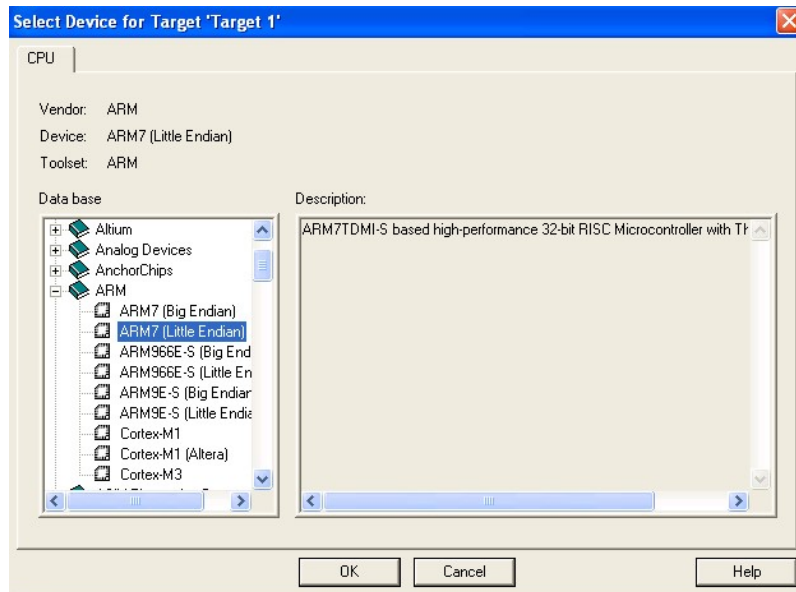

Fig 1.4
Step 3 :At this point the tools will ask you to specify a device to simulate as shown in Fig 1.4. Select ARM7(Little Endian) say OK.